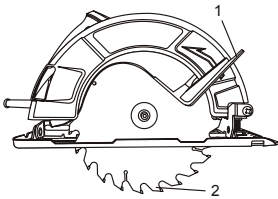

Fig. 1
Rotate the lower blade guard lever (1) clockwise toward the front of the saw and carefully place the saw on the corrugate with the blade teeth (2) resting on the corrugate (Fig. 1).